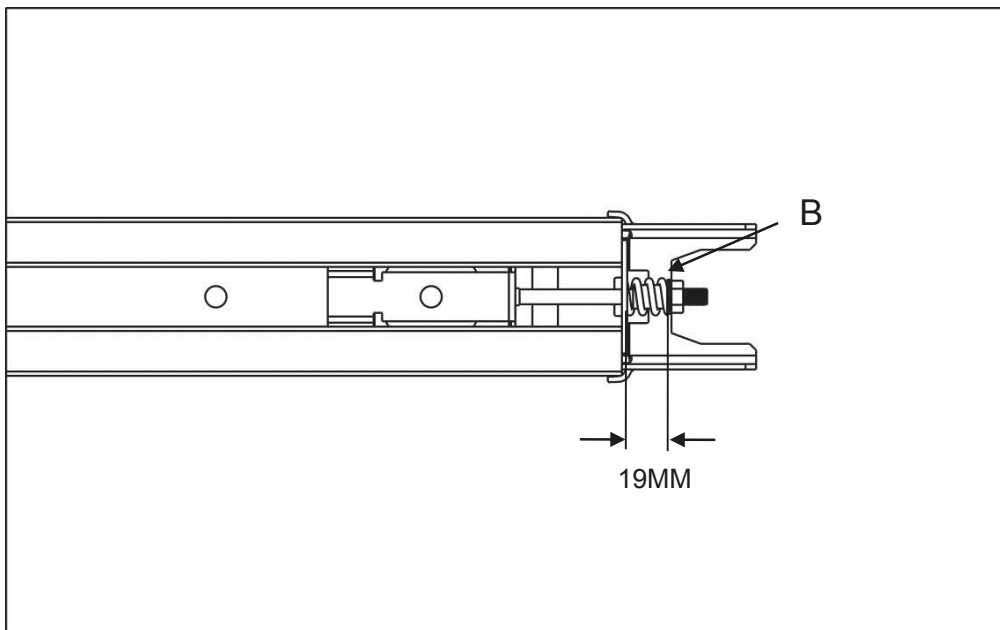

Fig. 11
6. Tight the nut to the right position as shown in Fig.11 , cut the plastic cable tie on sprocket, then whole rail assembled finished.